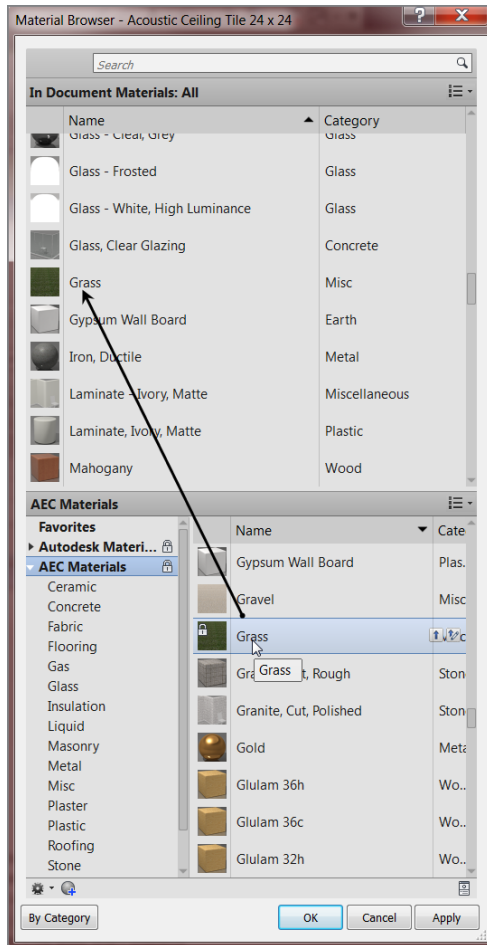

FIGURE 18.5: Finding some grass
13. At the top of the Material Browser, enter the word **grass**, as shown in Figure 18.5.
15. Select the Graphics tab, and change Cut Pattern to Earth (see Figure 18.5).